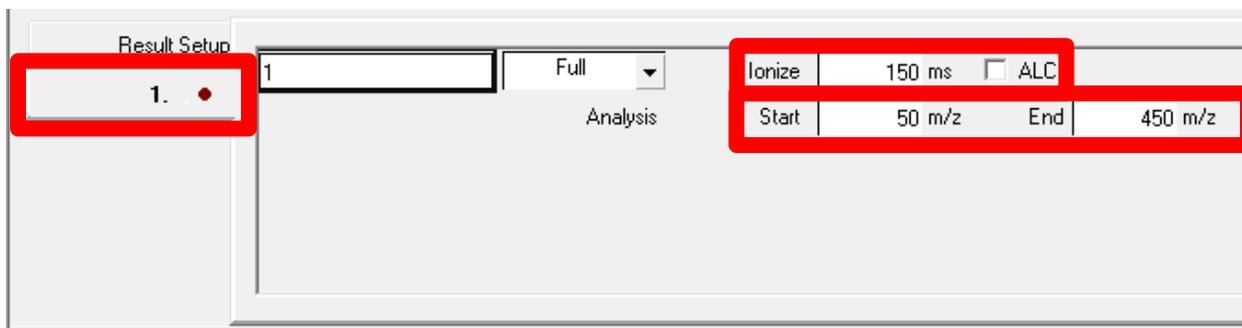

Figure 4.6 – MS scan settings
6. The default method will load recommended starting conditions with the MS scan settings visible (Figure 4.6). The default mass ranges are 50 – 425 m/z . A default ionization time of 150 ms will also be set. Un-check the box for “ALC” (Automatic Level Control). “ALC” is also known as Automatic Gain Control (Figure 4.6).